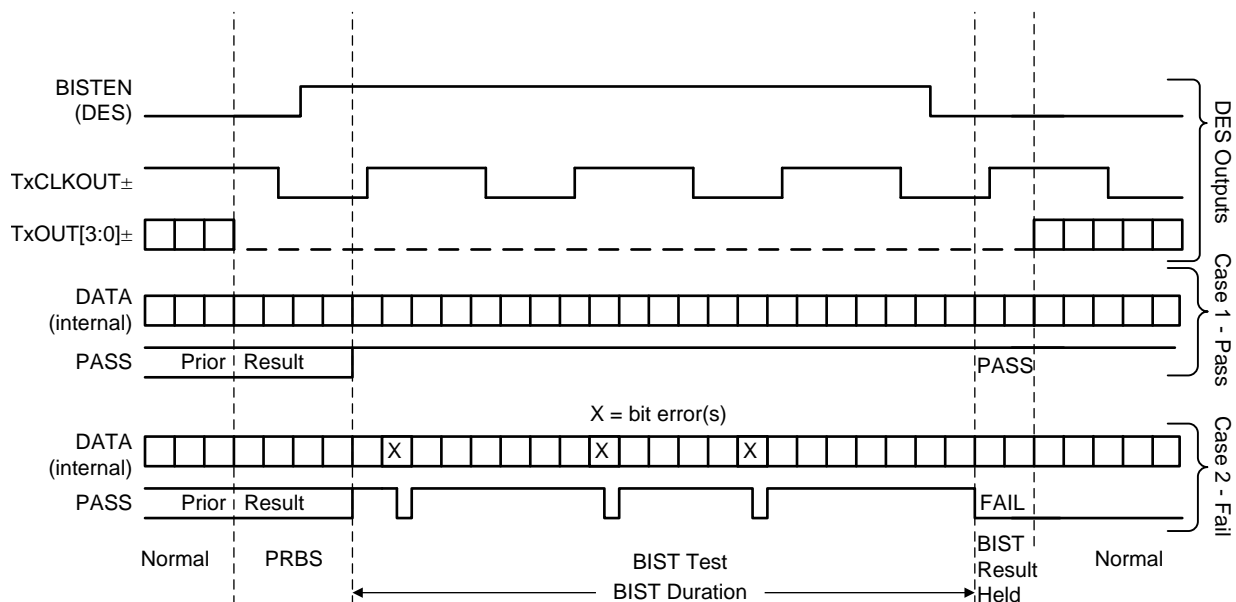

Figure 19. BIST Waveforms in Conjunction With Deserializer Signals
Step 4: The link returns to normal operation after the deserializer BISTEN pin is low. Figure 19 shows the waveform diagram of a typical BIST test for two cases: Case 1 is error-free, and Case 2 shows one with multiple errors. In most cases, it is difficult to generate errors due to the robustness of the link (differential data transmission and so forth), thus they may be introduced by greatly extending the cable length, faulting the interconnect medium, or reducing signal condition enhancements (Rx Equalization).